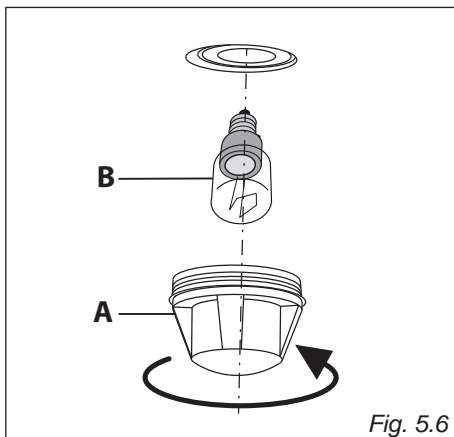

Fig. 5.6
- Remove the protective cover "A" (fig. 5.6).